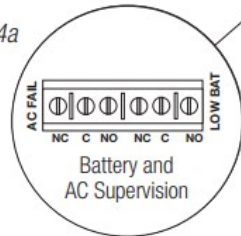

Fig. 4b
For access control applications batteries are optional. If batteries are not used, a loss of AC will result in the loss of output voltage. When batteries are used, they must be lead acid or gel type. Connect one (1) battery to the terminals marked [– BAT +] for 12VDC operation. Use two (2) 12VDC batteries wired in series for 24VDC operation (Fig. 4b, 5b, pg. 8). The rack mount enclosure will not accommodate batteries. A separate battery enclosure is required.